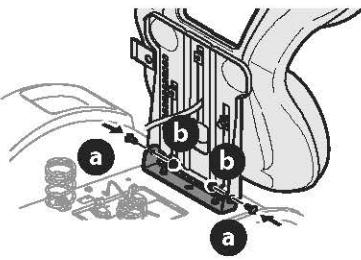

Figure 3
- With the previously removed shoulder bolts (a) and flange lock nuts (b) secure one side of the seat and seat bracket. While supporting the seat, remove the Phillips screwdriver and secure the other side of the seat. Be careful not to crimp or damage the wire harness while installing the seat (Figure 3). Torque to 84-103 in-lbs (9-12 N-m).